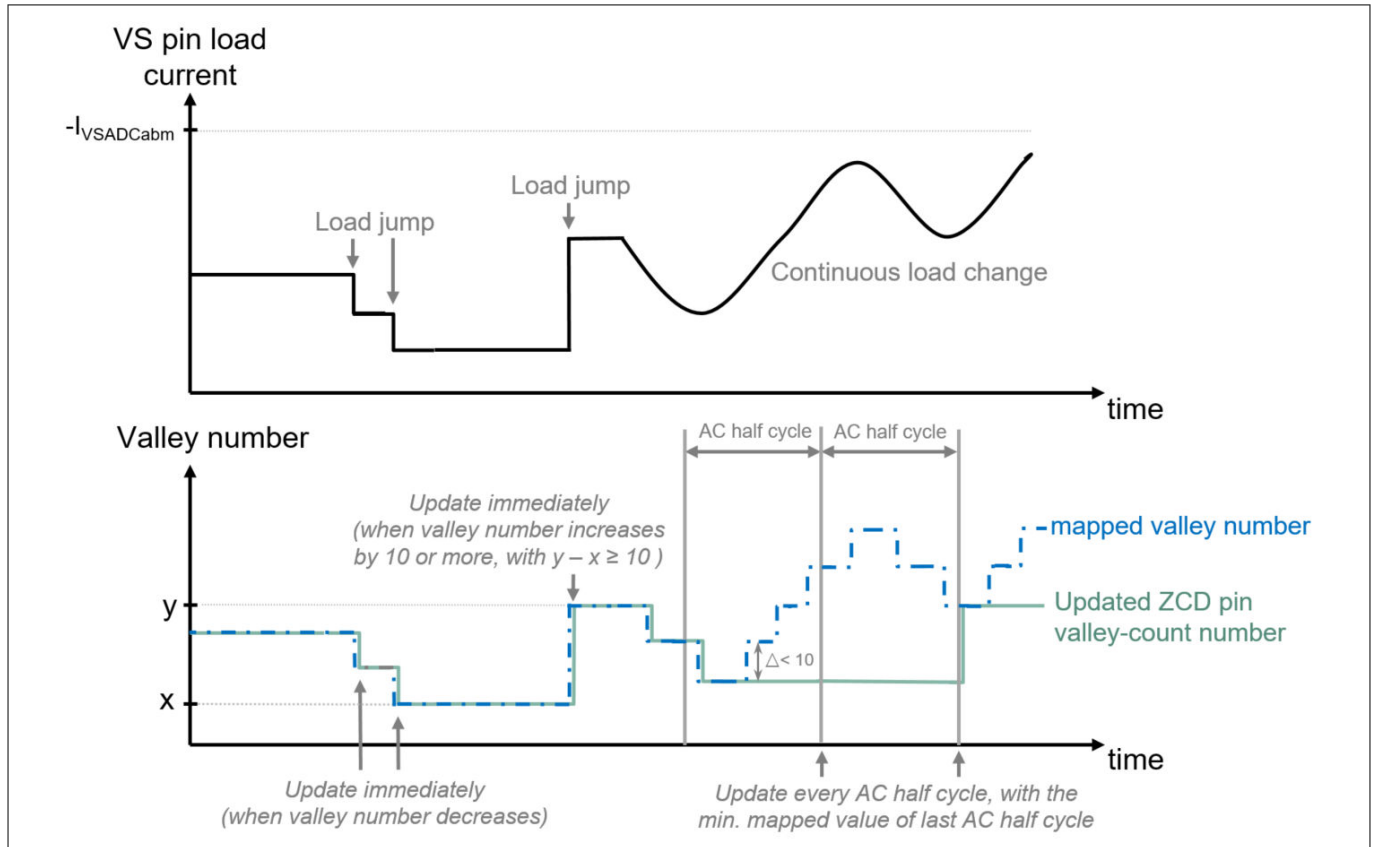

Figure 14 Illustrative example of the QRM valley selection hysteresis mechanism
1. To minimize the multiple valley changes within one AC half cycle, ICC80QSG updates the ZCD valley-count number once every AC half cycle, based on the lowest mapped valley number from the last AC half cycle, as shown in Figure 14. During each AC half cycle, the controller adjusts the on-time to stay in the selected valley number. In this way, the number of valley jumps is limited to a minimum.
2. When a load jump happens, if the valley number has to be decreased, it happens immediately. For the case of valley number increase, if the load jump results to a valley number increase by 10 or more, it happens immediately. Otherwise, the change happens only at the start of the next AC half cycle, as shown in Figure 14.